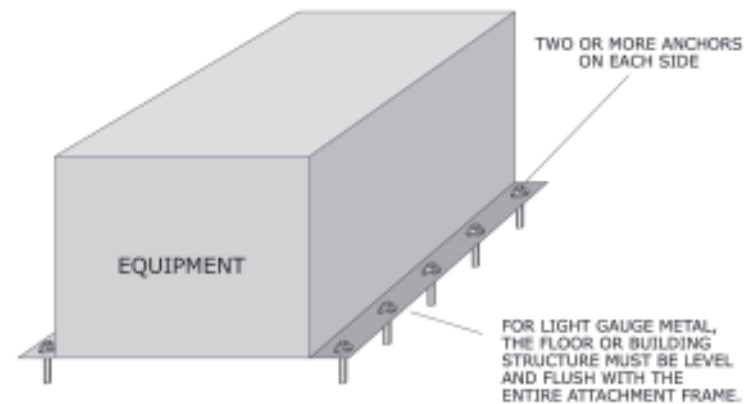
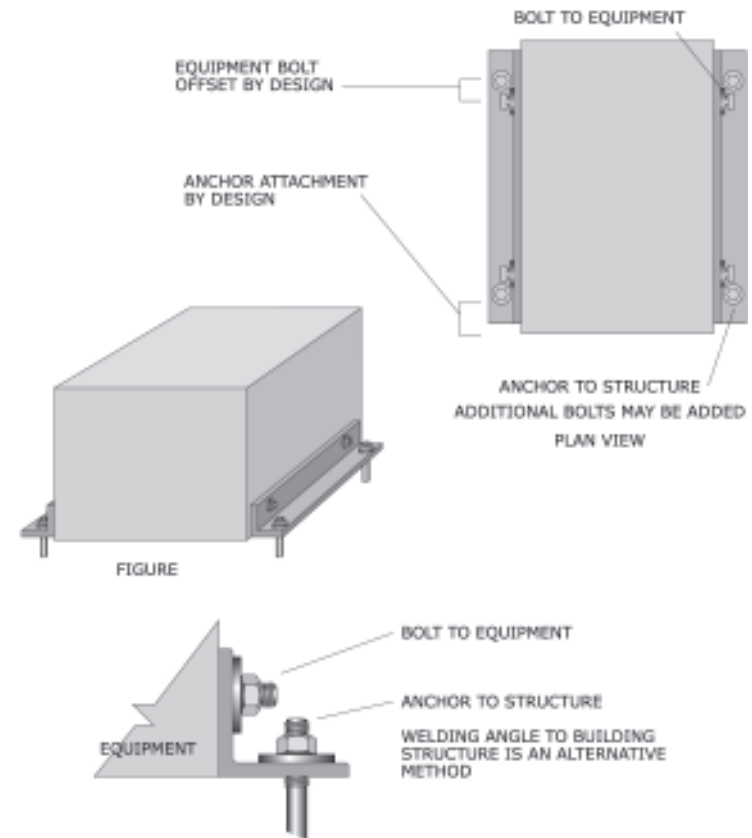

Figure 68: Direct attachment of equipment with sheet steel housing to a building.
Figure 72: Two angles used to attach the equipment to the building.
Do not add shims under equipment with sheet steel housings as shown in Figure 68 above. If the concrete floor/pad is irregular, reinforce housing with angles as shown in Figure 72 (page 37).
- Full-size angles on each side of equipment: Figure 72 (page 37).